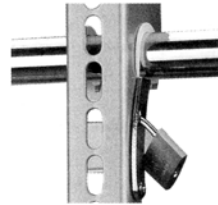

Fig. 7- Use a padlock to help prevent theft of your display
3. Move the safety tabs located on each arm into position to avoid having the display accidentally lifted from the mount. A padlock can be inserted into one of the tabs to help prevent theft of your display (Fig. 7).